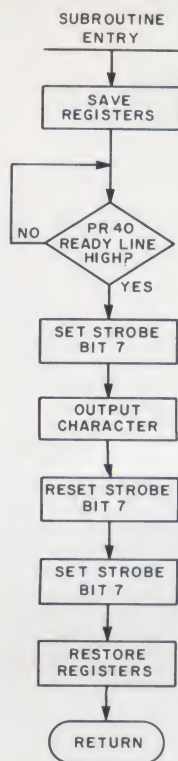

Fig. 2. A single-character output subroutine for the PR-40.
The circuit of Fig. 2 is another story. I came up with it on my own but would be surprised if no one else has thought of it before me. I might point out that a variation of this circuit will
Some typical output from the printer is shown in Fig. 2. The print intensity control was turned to approximately midway for these examples, although I normally run mine at the lightest setting to avoid heating the solenoids. Less heat = longer life = less cost, although the printer seems to be built very simply and reliably.
Fig. 2 lists a single-character output subroutine in Z-80 language. Any number of characters can be output because the status line is sampled every character via input port 2. Output port 2 is used for the seven ASCII bits plus a strobe bit (bit 7). AND-OR instructions are used to generate the strobe pulse. To print a double-width line merely insert a 1216 anywhere in the character buffer. It won't (can't) be printed, but the double-width flip-flop will be set. Fig. 3 shows a hexadecimal dump of the character buffer for my **"*Z-80 DISASSEMBLER*"** heading, with the 1216 at 0647 and 0D16 (CR) at 0648. Keep in mind that twenty characters is the maximum line length when printing double width. ■
So, we now have a bubble chip with data stored in it in the form of bubbles that can be moved by rotating magnetic fields like a giant shift register. But, what a shift register! The TIB-100 series can hold 92K bits and represents only the tip of the technological iceberg. Can you imagine a 1M bit shift register? Obviously there must be a better method of handling the data or our access time would be given in millidays. To gain quick access to this super shift register it has been organized into major and minor loops as shown in Fig. 2. Data in the form of bubble domains is written in the major loop and shifted around until it is at the transfer gates adjacent to the minor loops. In the TIB-100 series there are 157 minor loops for the storage of data. A transfer pulse moves data that has been generated in the major loop to the
Fig. 2. Magnetic bubble memory 100K-bit bubble chip schematic. The polarity of the transfer pulse at the T inputs determines if the operation transfers data to or from the minor loops.